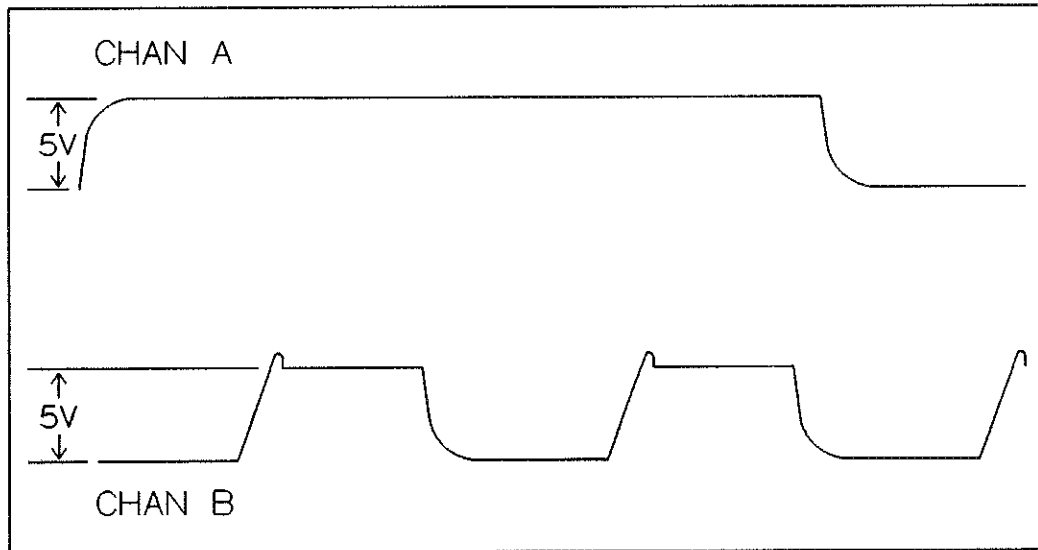

Figure 21-8 Trigger Input Test Waveforms
17. Change the oscilloscope Time setting to 2  $\mu$ S/Div. Verify that the waveform displayed on the oscilloscope is as shown in Figure 21-8.
34. Change the oscilloscope Time setting to 2  $\mu$ S/Div. Verify that the waveform displayed on the oscilloscope is as shown in Figure 21-8.